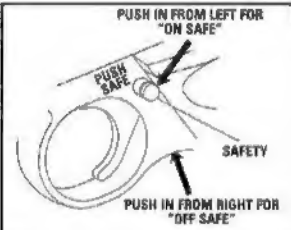

Fig. 2
- Push the safety from the left side all the way in (Fig. 2). The safety is not on unless it is pushed all the way in and the red ring around the safety is not showing. The airgun will not fire when "On Safe".
- Push the safety from the right side all the way in (Fig. 2).